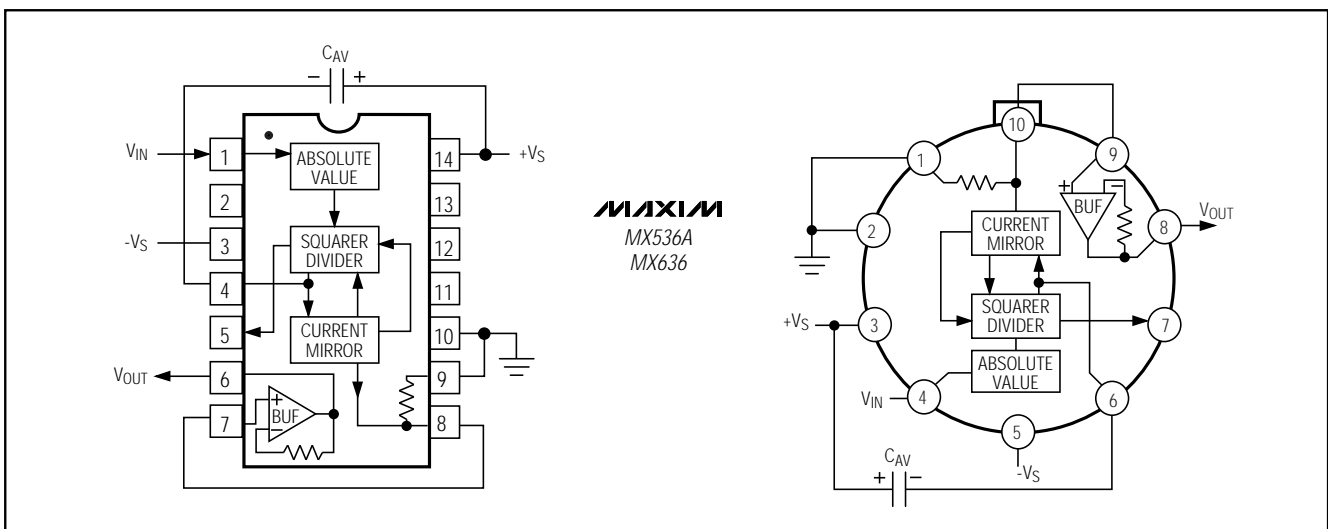

Figure 2. MX536A/MX636 Standard RMS Connection
**Note 1:** Accuracy is specified for 0 to  $7V_{\text{RMS}}$ , DC or 1kHz sine-wave input with the MX536A connected as in Figure 2.
### Standard Connection (Figure 2)